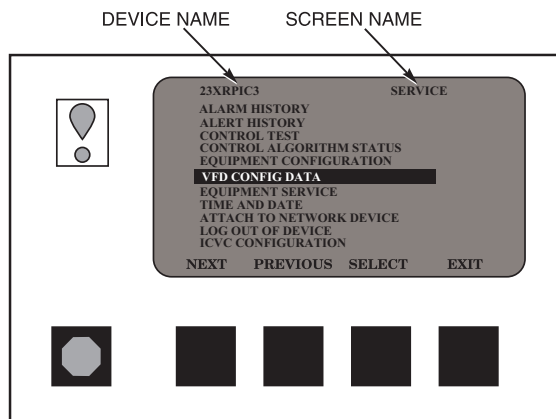

Fig. 25 — ICVC Service Screen
- If a screen other than the default screen is displayed on the ICVC, the name of that screen is in the upper right corner (Fig. 25).